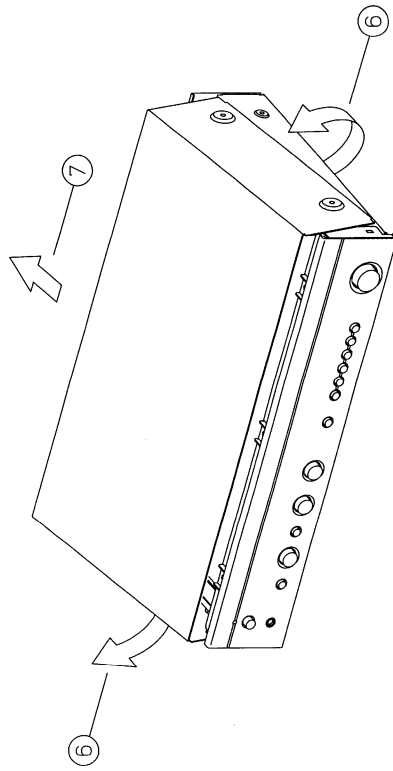

Figure No. 2.
2. Pull both sides of the TOP COVER slightly outwards and tilt approximately, 35° and then remove in the direction as shown in **Figure No. 2**.